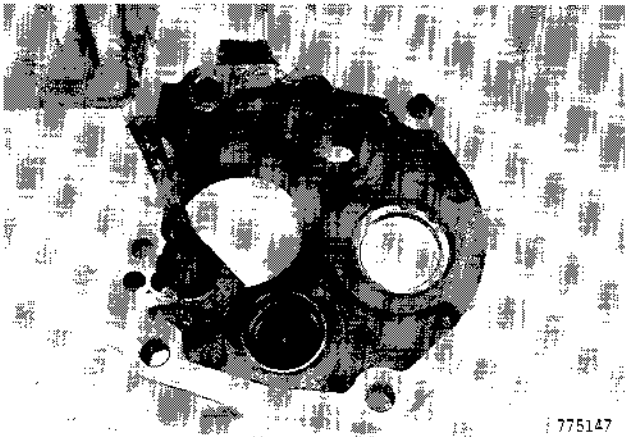

Figure 154
7. Install bearing cup by tapping with a soft hammer, Figure 154.